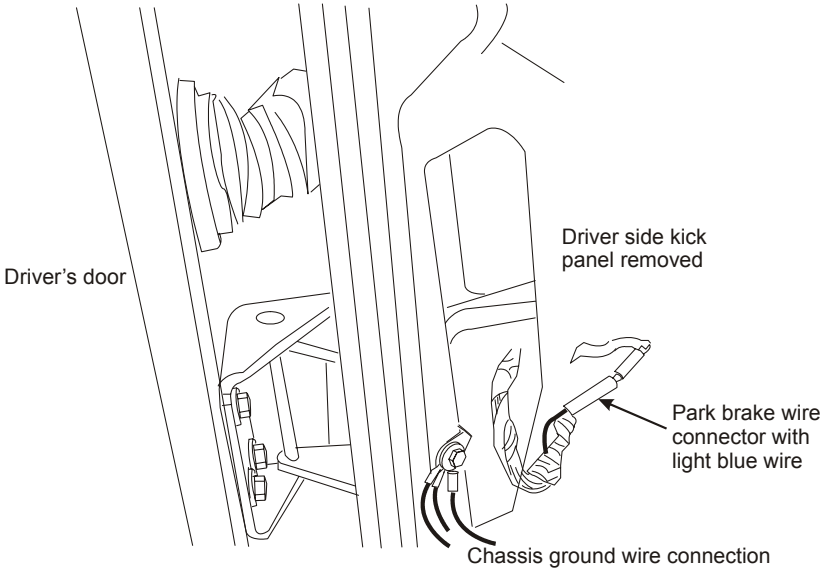

Figure 1
- Remove the kick panel from the driver's side of the cab, solder and seal the black wire from the throttle control to the light blue wire from the park brake switch (Figure 1). Replace the kick panel.